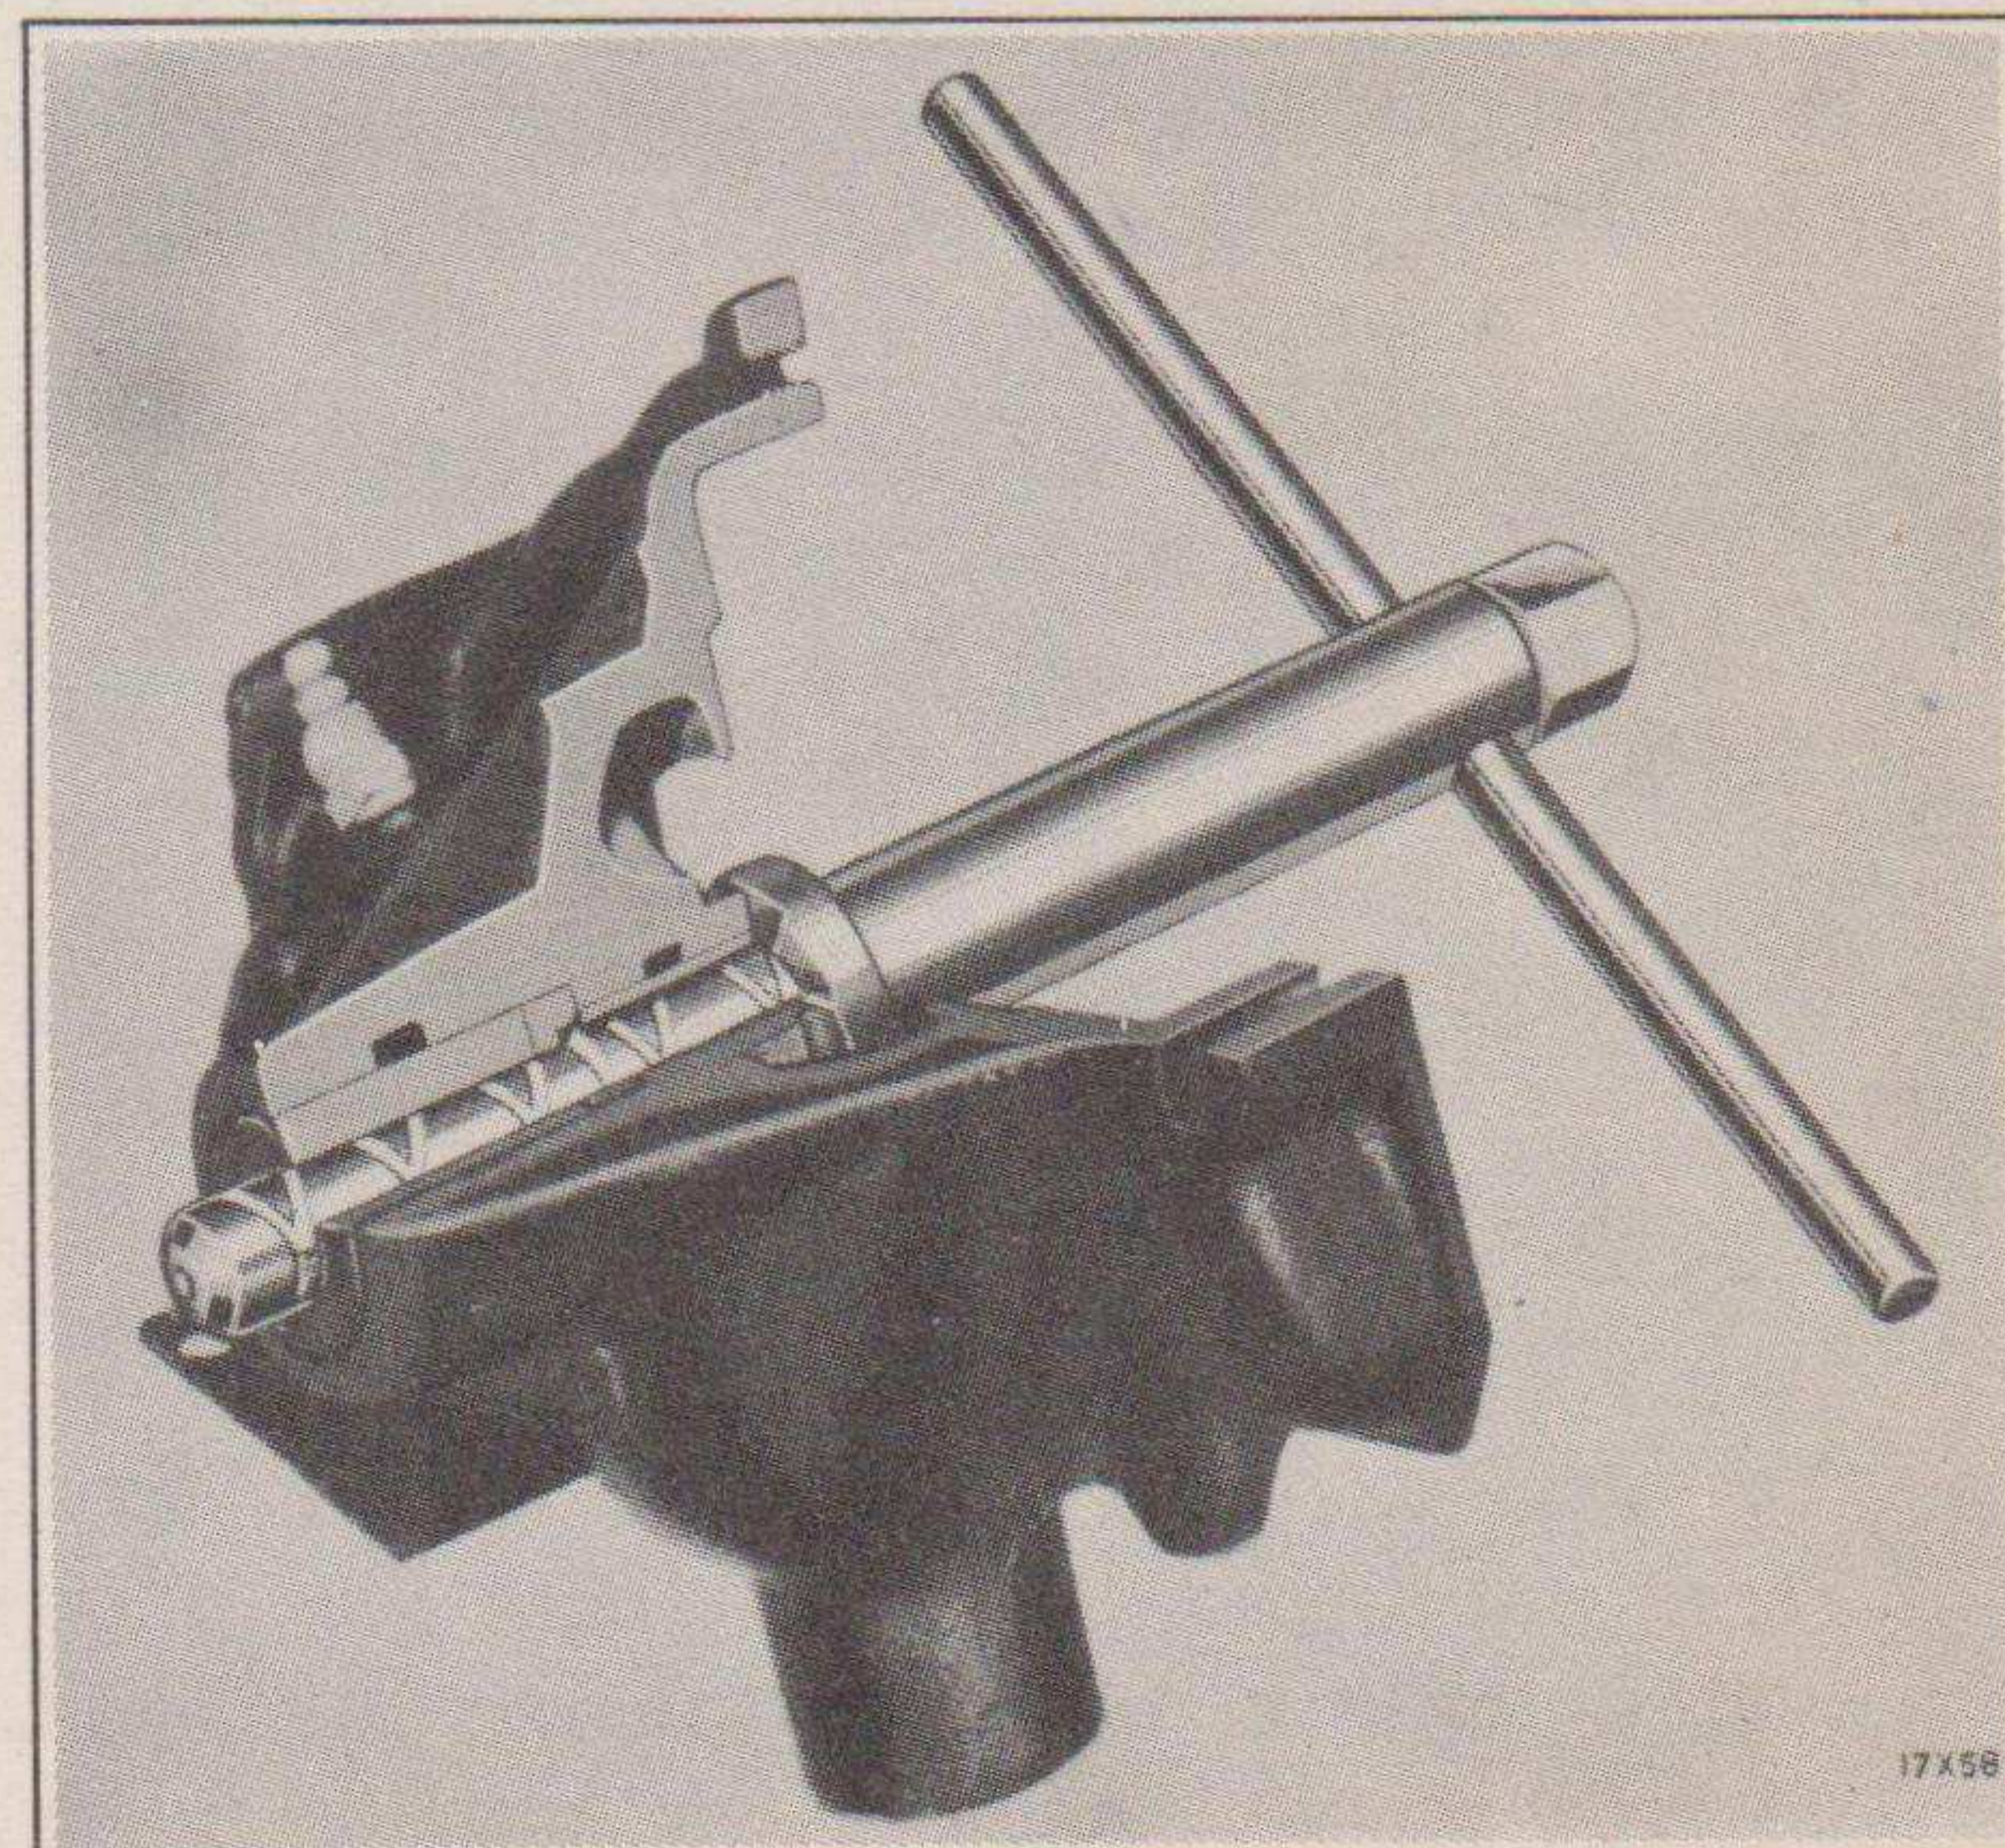

Fig. 104—Line Burnishing Bushings and Facing the Housing
- (g) Line burnish the bushings and reface the body using special tool C-384 (Fig. 104). Turn the burnisher in an *even* clockwise